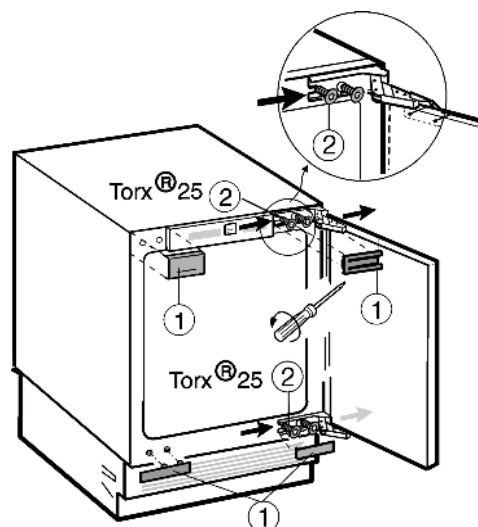

Fig. 2
- ▶ Lift off covers Fig. 2 (1).
- ▶ Only slacken fastening screws Fig. 2 (2).
- ▶ Transfer top and bottom fastening screws *Fig. 2 (2)* to the opposite side.
- ▶ Attach appliance door to the prefitted fastening screws *Fig. 2 (2)*.
- ▶ Firmly tighten the fastening screws *Fig. 2 (2)* **(with 4 Nm)**.
- ▶ Re-fit covers *Fig. 2 (1)*.